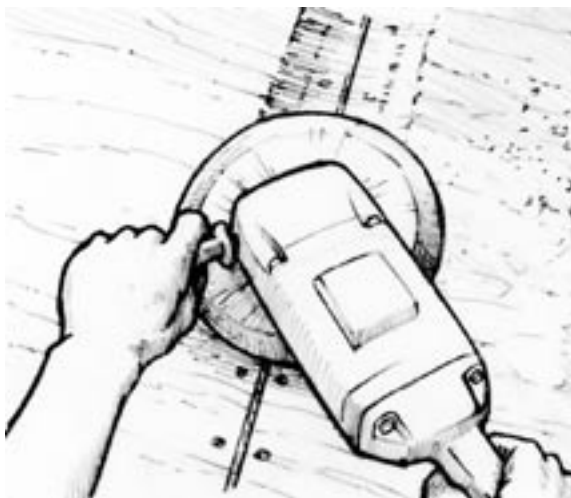

Figure 6-10 Sand a valley along the joint to allow for fibreglass tape.
3. Sand a 100mm to 125mm wide valley along the joint with a disc sander to allow the layer(s) of tape to lie below the surface. Make the depression about 0.75mm deep for each layer of 175g/m² (6 oz/yd²) fibreglass tape that will fill the joint. Use the sander or a chisel to remove any additional damaged or rotted plywood around the joint. At an edge or chine, use the sander or a router with a roundover bit to round the corner. A 6mm to 9mm radius will allow the glass tape to lie flat on the surface (*Figure 6-10*).